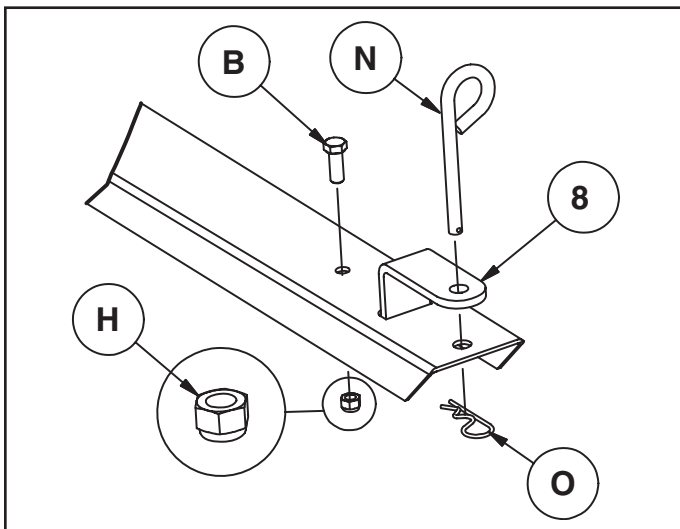

FIGURE 3
STEP 3: (SEE FIGURE 3)
- Assemble the end of the hitch bracket (8) down through the slot at the front of the tongue. Fasten it to the tongue using the hex bolt (B) and hex nut (H). **Tighten.**
- Assemble the hitch pin (N) and hair cotter pin (O) to the tongue and hitch bracket.